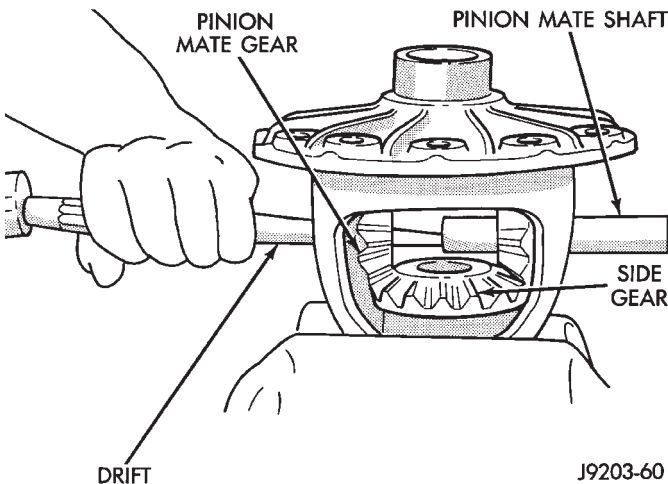

Fig. 37 Pinion Mate Shaft Removal
- (1) Remove ring gear.
- (2) Remove roll-pin holding mate shaft in housing.
- (3) Remove pinion gear mate shaft (Fig. 37).